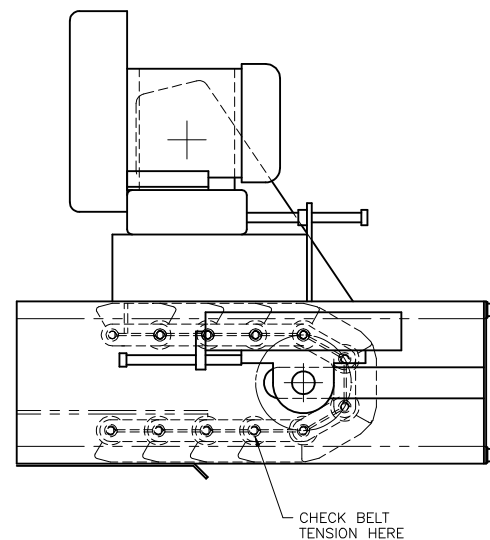

Figure 6: Typical head section.
2. With a hammer, tap hard on the center of the hinge link that is just beyond the head shaft. (See Figure 6)